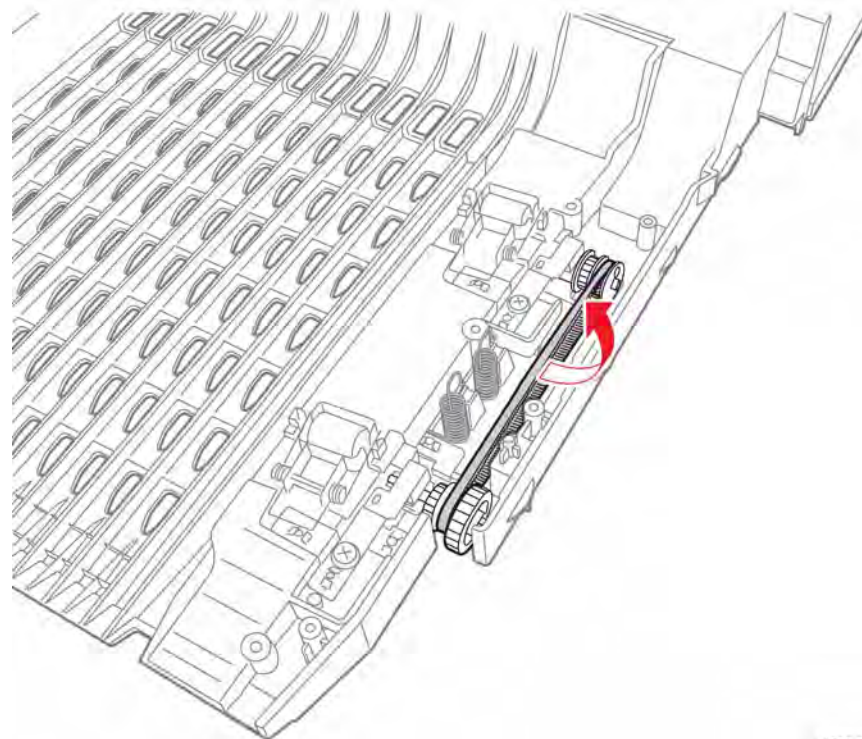

Figure 2 Remove the Duplex Unit Timing Belt
3. Remove the belt from the rear pulley and belt around the front pulley to release the belt from the Duplex Unit, Figure 2.